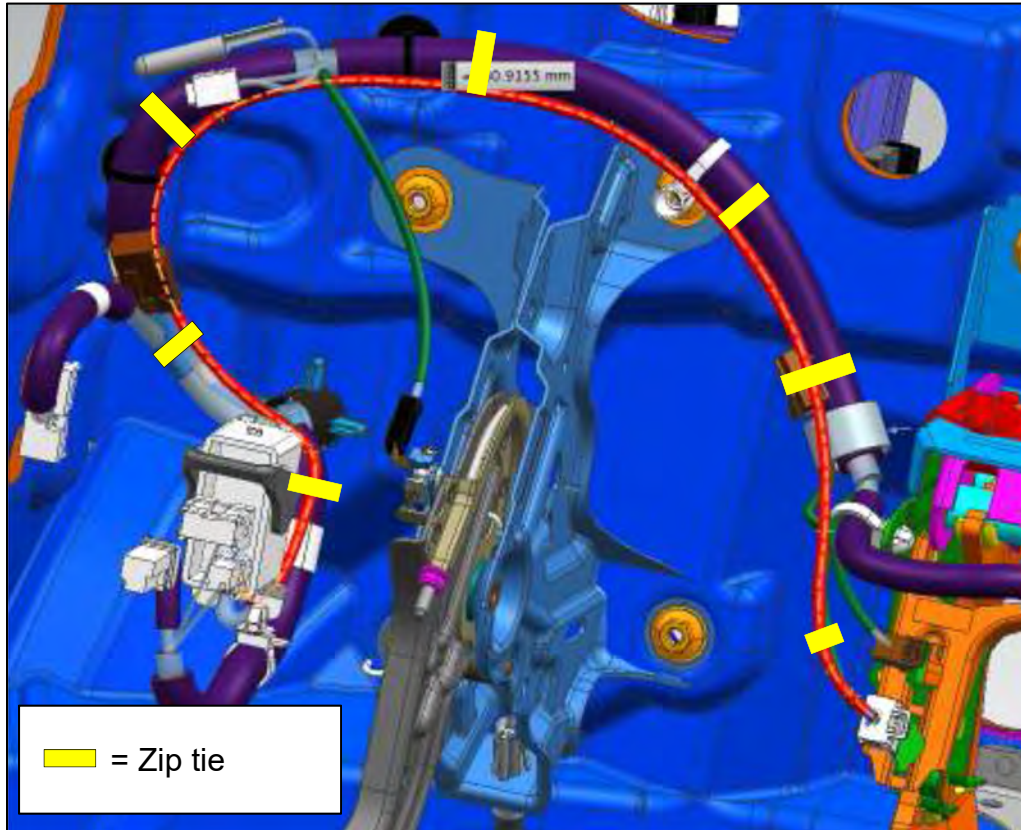

Figure 27
29. Attach the jumper harness with zip ties to the engine room harness as shown in Figure 27.